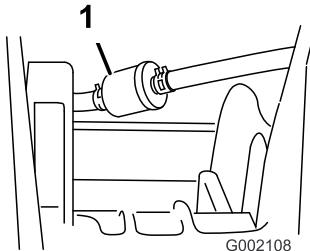

Figure 34
5. Remove the clamps securing the fuel filter to the fuel lines (Figure 34).